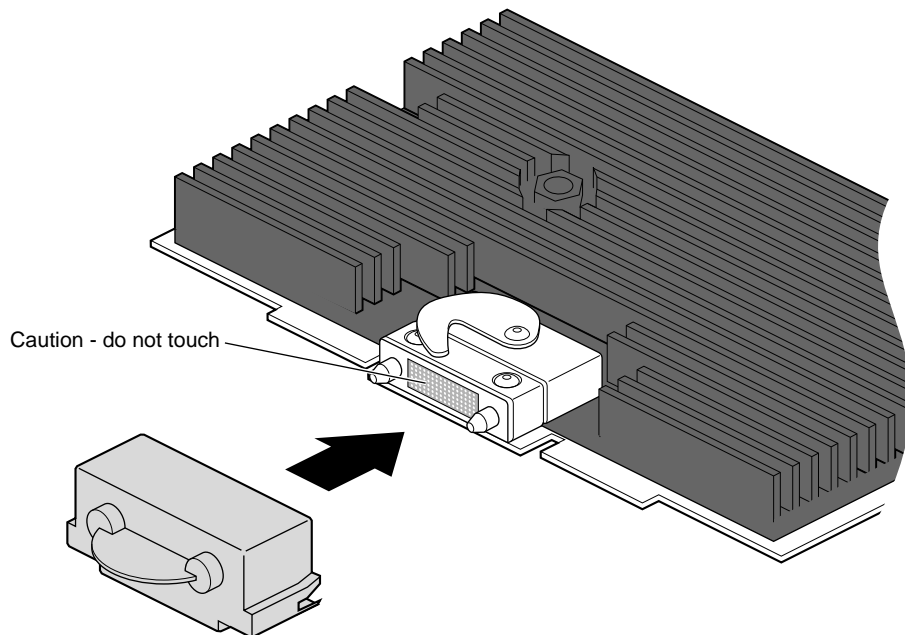

Figure 5-5 Placing a Cap on the XIO Compression Connector
5. Place a cap over each XIO board compression connector. Spare caps are shipped with the Octane2 workstation. See Figure 5-5.